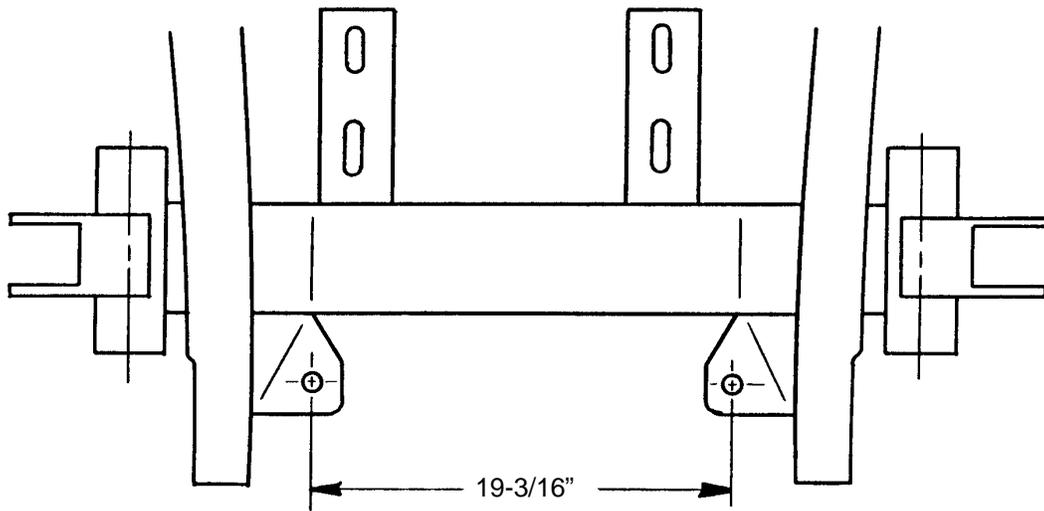

Figure 3
6. The radiator tabs are next. Clamp the two tabs to a flat bar. They should be spaced so the holes are spaced 19-3/16" apart, hole center to center. Position the tab and bar assembly up into the frame, so the outer edge of the tabs is against the inside bottom edge of the frame. If they fall under the frame, grind the outside edges of the tabs so the edges of the tabs end up inside the bottom inside edge of the frame rails. See Fig. 3. You will see that the actual radiator mounting surface is tilted back, to give the radiator the correct mounting angle. Weld in place.